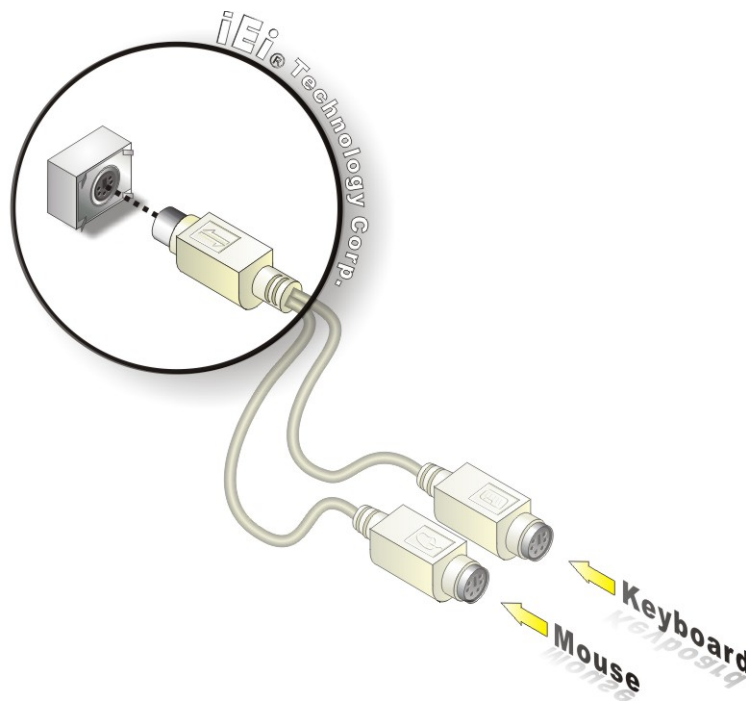

Figure 5-13: PS/2 Keyboard/Mouse Connector
- Step 2:** Insert the keyboard/mouse connector. Insert the PS/2 connector on the end of the PS/2 y-cable into the external PS/2 connector. See **Figure 5-13**.